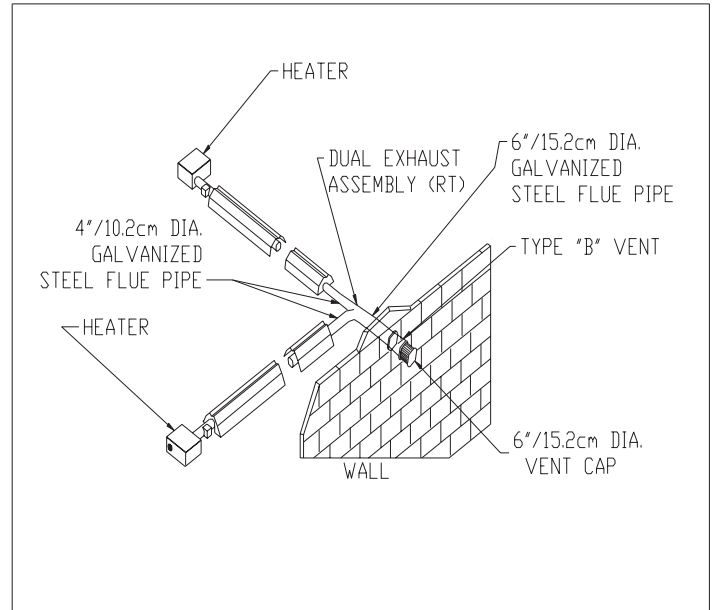

Figure 2.8.6
- * A common flue of 6 in./15.2cm diameter must be used for double-venting of units. One thermostat must control both units. When common venting is used, flues should be connected so that the by-products of one heater cannot flow into the adjoining flue of the other heater. A dual-exhaust assembly is available from Brant Radiant Heaters, Part Number BR-YA or BR-RTA (see Figures 2.8.6 through 2.8.8). A Field Controls SK-6 vent cap must be used for sidewall common venting of all models.